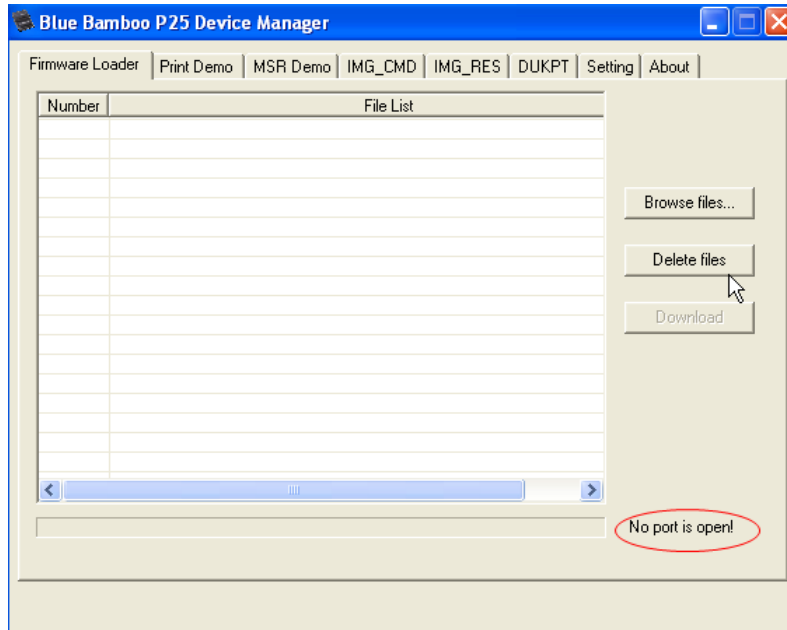

Figure 11
- Open the P25 Device Manager, there will be a message at the bottom right corner to show that no port is open as Figure 11. You need to select the correct communication port and open it first.